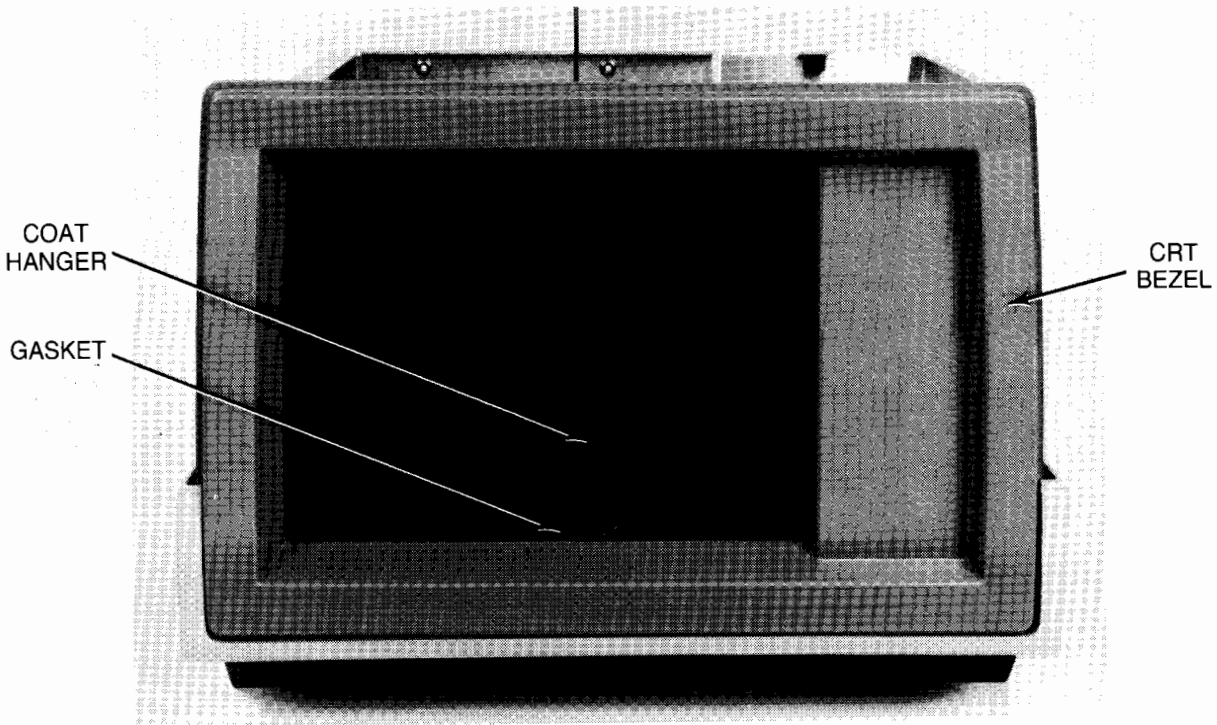

Figure 4-95. Replacing Front Bezel
7. Replace front bezel. Push CRT bezel gasket down by inserting a bent coat hanger or long flat-blade screwdriver between bezel and CRT and tamping down (Figure 4-95).